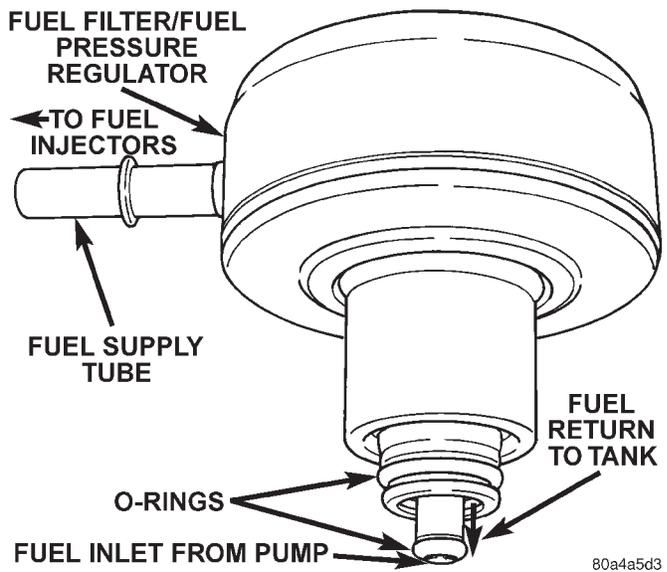

Fig. 24 Fuel Filter/Fuel Pressure Regulator O-Rings
- (6) Before discarding filter/regulator assembly, inspect assembly to verify that o-rings (Fig. 24) are intact. If the smallest of the two o-rings can not be found on bottom of filter/regulator, it may be necessary to remove it from the fuel inlet passage in fuel pump module.